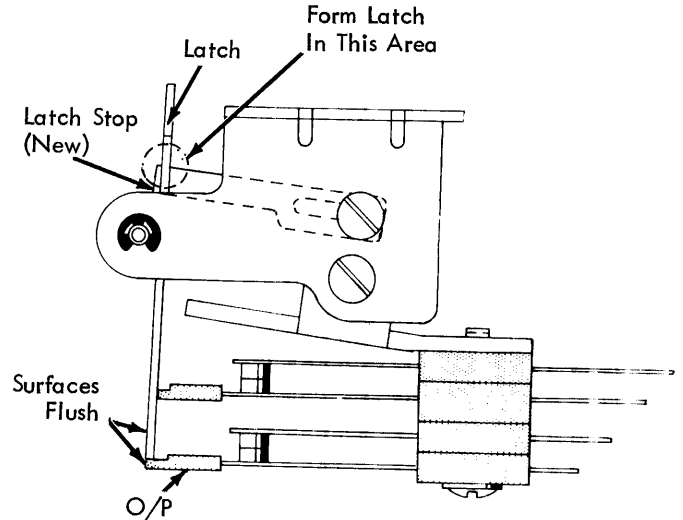

FIGURE 176. Latch Stop
4. Latch Stop (Present on Late Models) Fig. 176 - Position so that the end of the O/P stops are flush with the forward latch surface.
NOTE: Form individual latches as required in the area shown in Fig. 176.